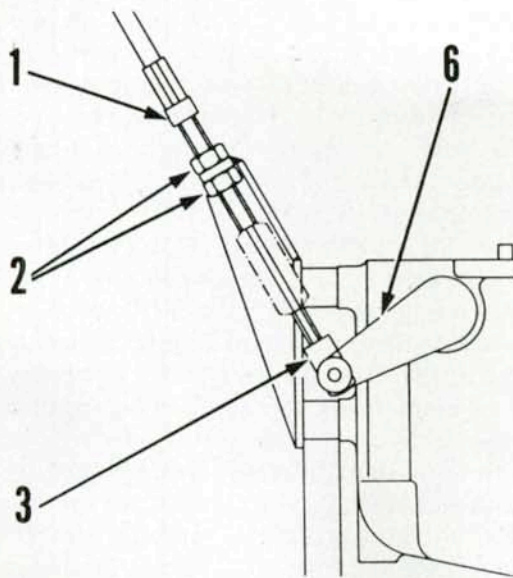

Fig. 47—Refer to text for transmission brake control linkage adjustment.
Adjust transmission brake control linkage as follows: Place hand control lever in "OFF" position. Move brake control lever (6—Fig. 47) fully upward to apply brake. Adjust cable adjuster nut (1) until clevis (3) can be attached to brake lever, then turn cable adjuster downward five revolutions to lower the lever and provide specified brake disc clearance in disengaged position. Tighten jam nuts (2).